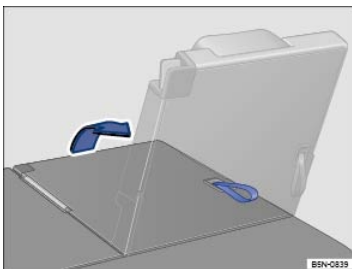

Fig. 81 In the third row: Strap to fold the third row seat backrest back into place.
- Pull the strap on the backrest ⇒ Fig. 81 to fold the backrest into place.